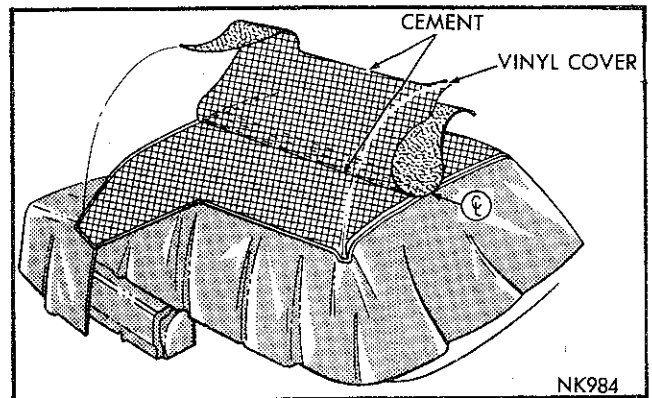

Fig. 2—Positioning cover to roof panel (typical)
- (2) Locate and mark centreline of roof panel.
- (3) Spread new cover assembly over roof panel aligning centre line notches in cover with centreline mark of roof panel (Fig. 2).
- (4) Secure cover to front window opening flange.
- (5) Pull cover rearwards until taut and secure in position.